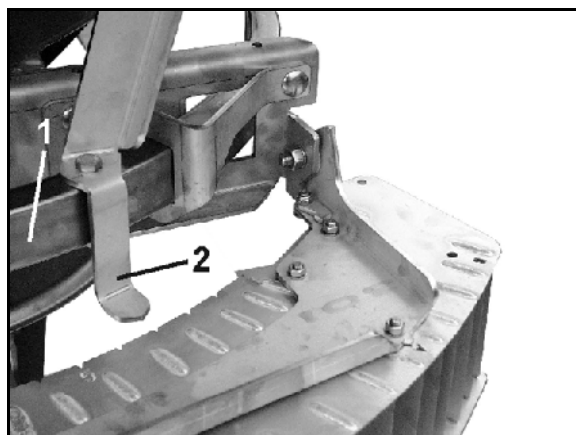

Fig. 65
2. Displace the boundary spread deflector on the guide bracket (Fig. 65/1) so that the pointer (Fig. 65/2) is at the value specified as per the setting chart (Fig. 63).